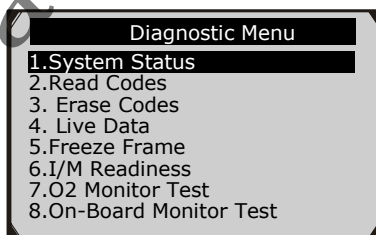

Figure 6.3
- 7) View a summary of system status (MIL status, DTC counts, Monitor status) on screen. (Figure 6.1) Press **OK** button for **Diagnostic Menu** (Figure 6.3) to come up.
- 1) Use **UP/DOWN** scroll button to select **Read Codes** from **Diagnostic Menu** and press **OK** button. (Figure 6.3)
- 1) Use the **UP/DOWN** scroll buttons to select **Erase Codes** from **Diagnostics Menu** and press the **OK** button. (Figure 6.3)
- 1) To view live data, use the **UP/DOWN** scroll button to select **Live Data** from **Diagnostic Menu** and press the **OK** button. (Figure 6.3)